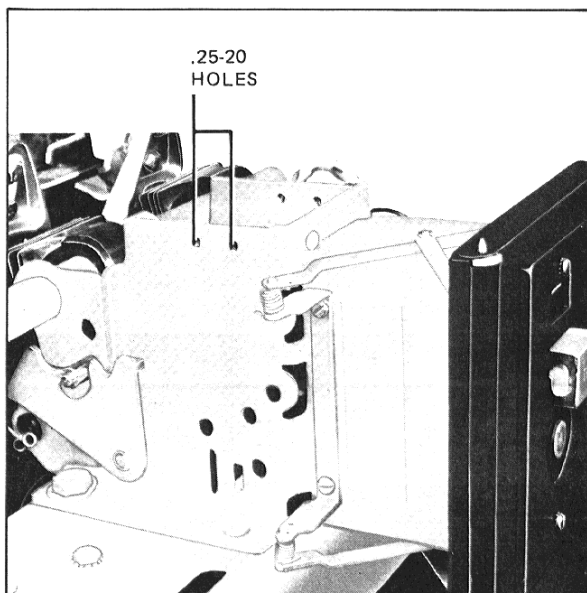

Fig. 7 Location of Holes for Amptector Bracket
2. Drill and tap four (4) .25-20 holes, two (2) on each side .87" between centers, 1.25" from the front, and .344 from top of breaker mechanism side frame, see Figs. 7 and 12. Use .201 or #7 drill and .25-20 tap.